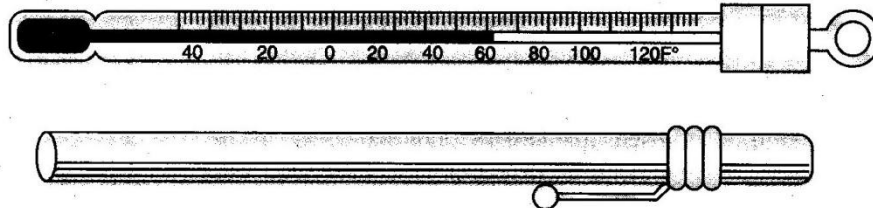

Fig. P-1.13. A stem type fahrenheit pocket thermometer.
1. **Stem type refrigeration thermometer** : It is an instrument used for measuring the temperature of various parts of a refrigerating machine. The temperature range of this thermometer is -20°F to 120°F on Fahrenheit scale or -25°C to 50°C on centigrade scale in graduations of two degrees Fahrenheit or centigrade. Sometimes some dial thermometers are also available which show the temperature in degrees directly. Fig. P-1.13 shows a stem type Fahrenheit pocket thermometer.